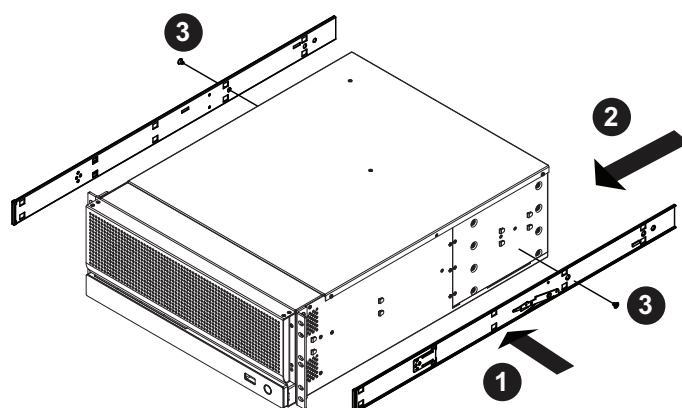

Figure 2-2 Installing the Inner Rail Extensions on the Small Rails
2. Install the inner rail extensions, as shown in Figure 2-2:
- Secure the inner rail to the Dolby Multichannel Amplifier chassis with the two provided M4 flat-head screws, as shown in Figure 2-2. Repeat these steps for the other inner rail.